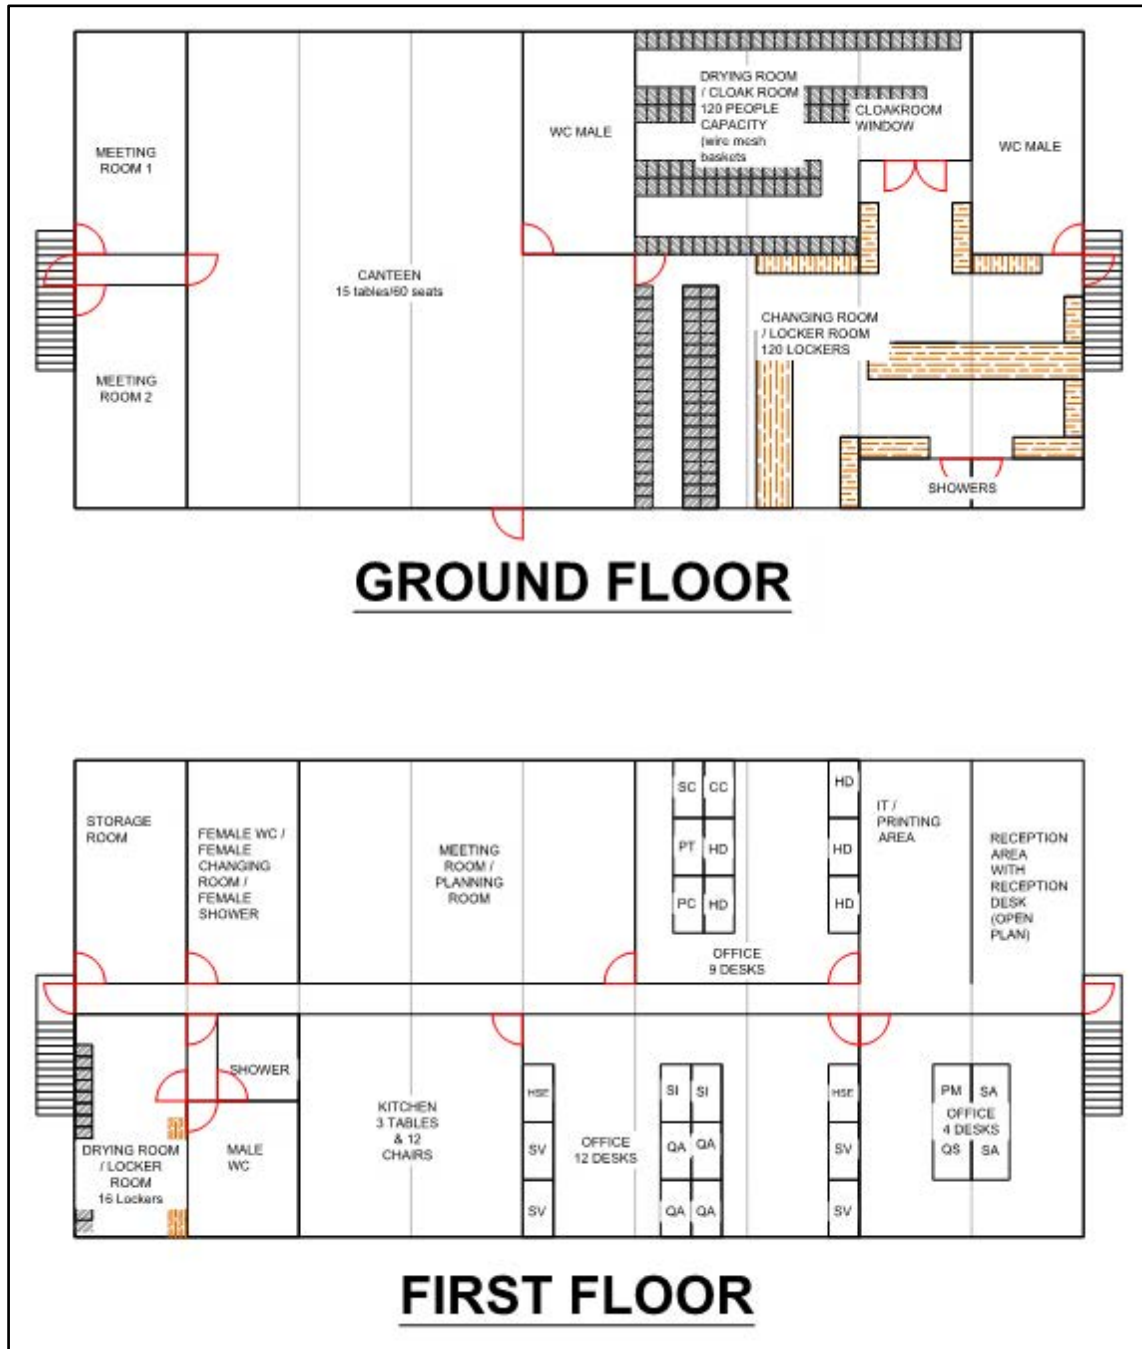

Figure 1: Proposed layout of the Welfare Facilities
- 4.1 A welfare and office structure (**Photograph 4**) will be setup for all staff working on the diaphragm wall works including management. Approximate dimensions of the structure will be 35m x 15m x 6m (**L x W x H**). It will be on two levels. An indicative layout is provided in **Figure 1** below.